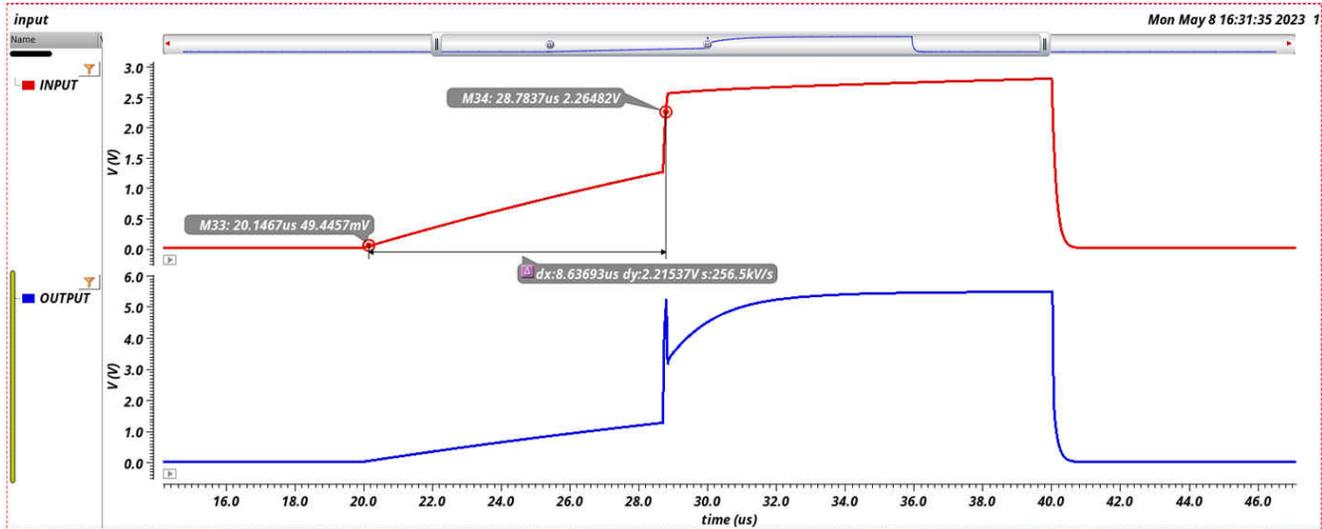

Figure 3-1. Example of Slow Rise and Fall Times, 2.4 $\mu\text{s/V}$
- Figure 3-1 shows the one-shot false triggering due to a slow input rise time outside of the data sheet recommendation.